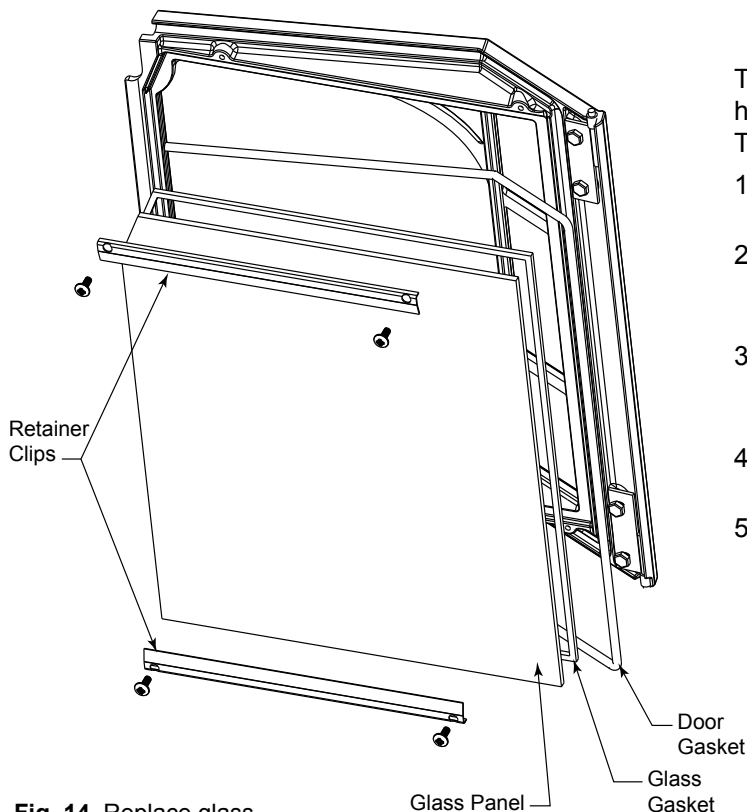

Fig. 14 Replace glass.
- Open the door and loosen the four retaining clip screws that hold the glass to the door. Swing the clips out of the way. Tilt the glass away from the door frame and lift up. (Fig. 14) Wear gloves and use caution when handling broken glass.